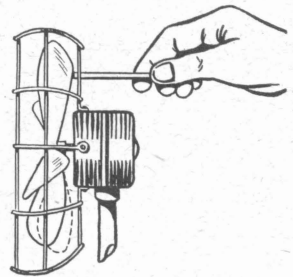

Fig. 34
**Remedy:** Test for a sprung blade as shown in Fig. 34. If metal, it may be sprung back into position.